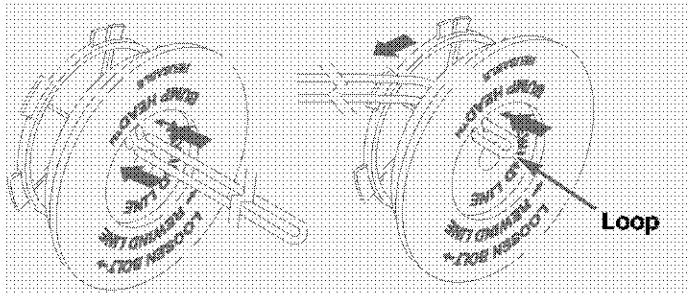

Fig. 36
- Take approximately 40 feet (12.2 m) of new trimming line, loop it into two equal lengths. Insert each end of the line through one of the two holes in the inner reel (Fig. 36). Pull the line through the inner reel so that the loop is as small as possible.